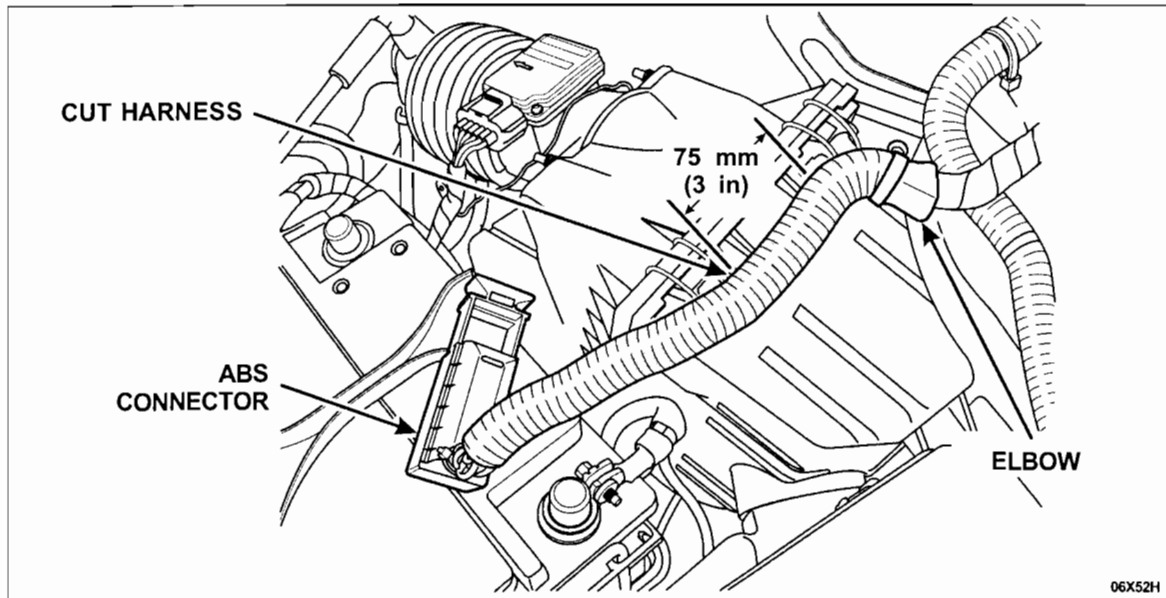

FIGURE 18
1. Remove the tape and the convolute from the vehicle harness which leads up to the ABS module connector. See Figure 18.
2. Measure approximately 75 mm (3 in) from the end of the elbow towards the ABS module connector, then, using suitable wire cutters, cut the harness (all wires) to the same length. See Figure 18.